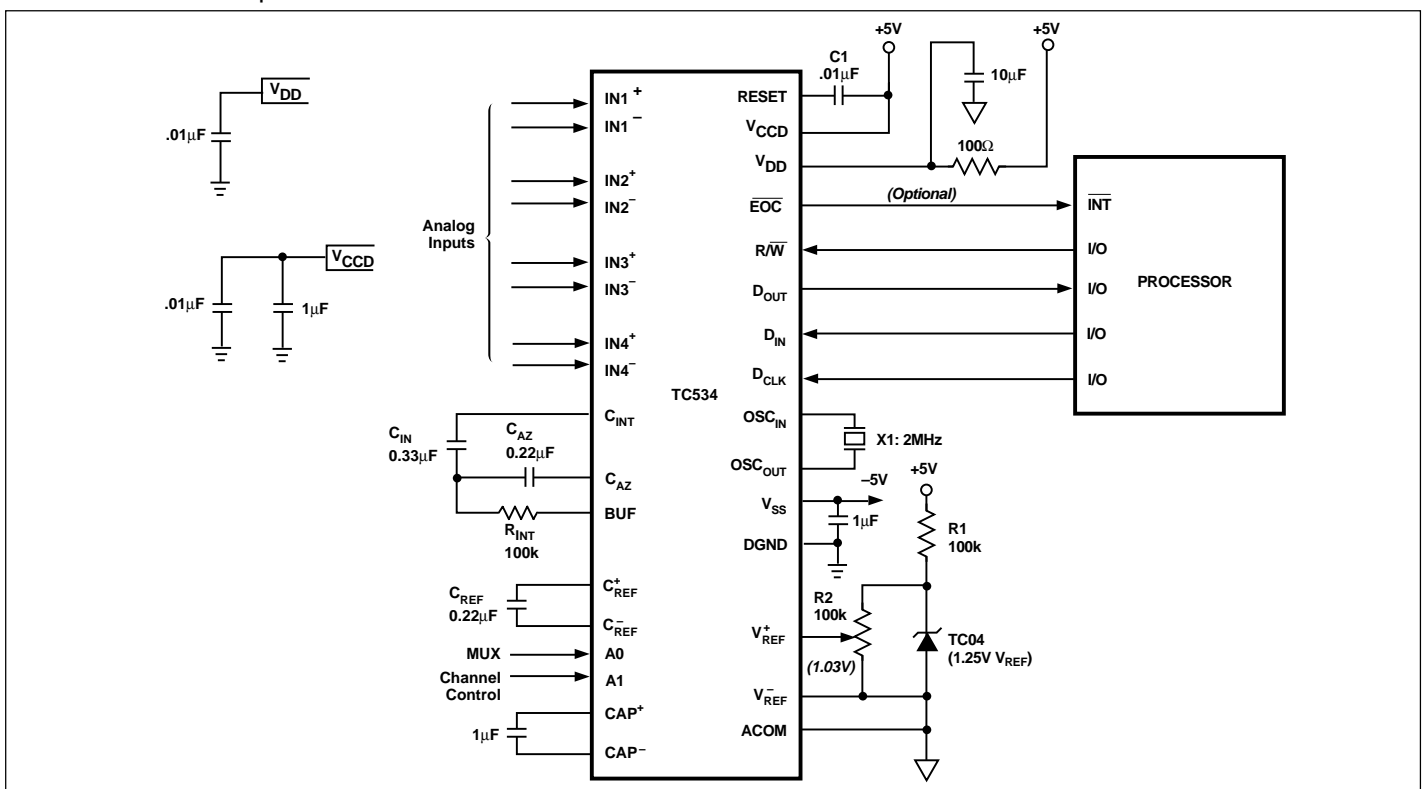

Figure 6. TC530/534 Typical Application
Figure 6 shows a typical TC534 interrupt-driven application. Timing and component values are calculated from equations and recommendations made in the Dual Slope Integrating Converter and Programming the TC530/534 sections of this document. The EOC connection to the processor INT input is for interrupt-driven applications only. (In polled systems, the EOC output is available on  $D_{OUT}$ ).
(2) Improper sequencing of the power supply inputs ( $V_{DD}$  vs.  $V_{CCD}$ ) can potentially cause an improper power-up sequence to occur in the internal state machines. It is recommended that the digital supply,  $V_{CCD}$ , be powered up first. One method of insuring the correct power-up sequence is to delay the analog supply using a series resistor and a capacitor. See Figure 6, TC530/534 Typical Application.
(3) Decoupling capacitors, preferably a higher value electrolytic or tantalum in parallel with a small ceramic or tantalum, should be used liberally. This includes bypassing the supply connections of all active components and the voltage reference.
(4) Critical components should be chosen for stability and low noise. The use of a metal-film resistor for  $R_{INT}$  and Polypropylene or Polyphenylene Sulfide (PPS) capacitors for  $C_{INT}$ ,  $C_{AZ}$ , and  $C_{REF}$  is highly recommended.
(5) The inputs and integrator section are very high impedance nodes. Leakage to or from these critical nodes can contribute measurement error. A guard-ring should be used to protect the integrator section from stray leakage.
(6) Circuit assemblies should be scrupulously clean to prevent the presence of contamination from assembly, handling, or the cleaning itself. Minutely conductive trace contaminants, easily ignored in most applications, can adversely affect the performance of high impedance circuits. The input and integrator sections should be made as compact and close to the TC53x as possible.